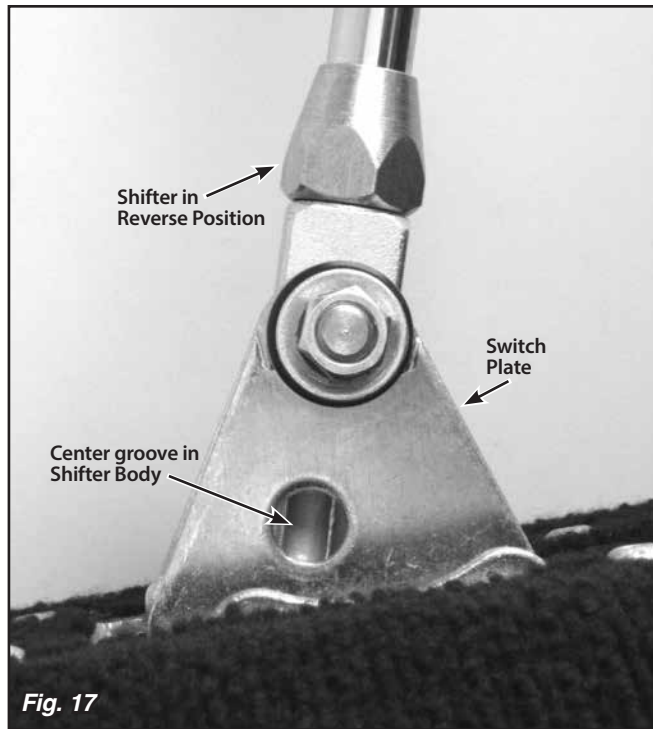
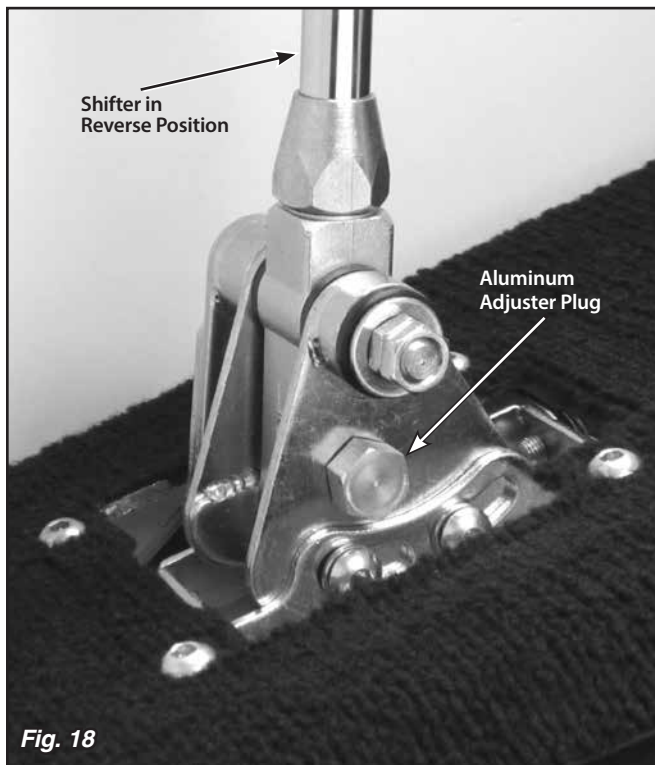

Fig. 17
Fig. 18
**Step 24:** Put the shifter into the Reverse position. Reposition the switch plate so that the hole in the switch plate lines up with the center groove in the shifter body. **Fig. 17** Screw the provided aluminum adjuster plug into the neutral safety switch opening. Wiggling the switch plate slightly forward and back while you are screwing the aluminum adjuster plug in will help get the shifter body centered on the adjuster plug. **Fig. 18**
- **If there are (2) connections for a neutral safety switch**, run a #12 (or heavier) stranded wire from these terminals in your fuse panel to the (2) terminals on the neutral safety switch. That completes the Neutral Safety Switch wiring.